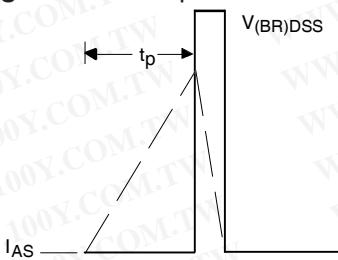

**Fig 11.** Maximum Effective Transient Thermal Impedance, Junction-to-Case
- $Z_{thJC}(D, t_{av}) = \text{Transient thermal resistance, see figure 11)}$